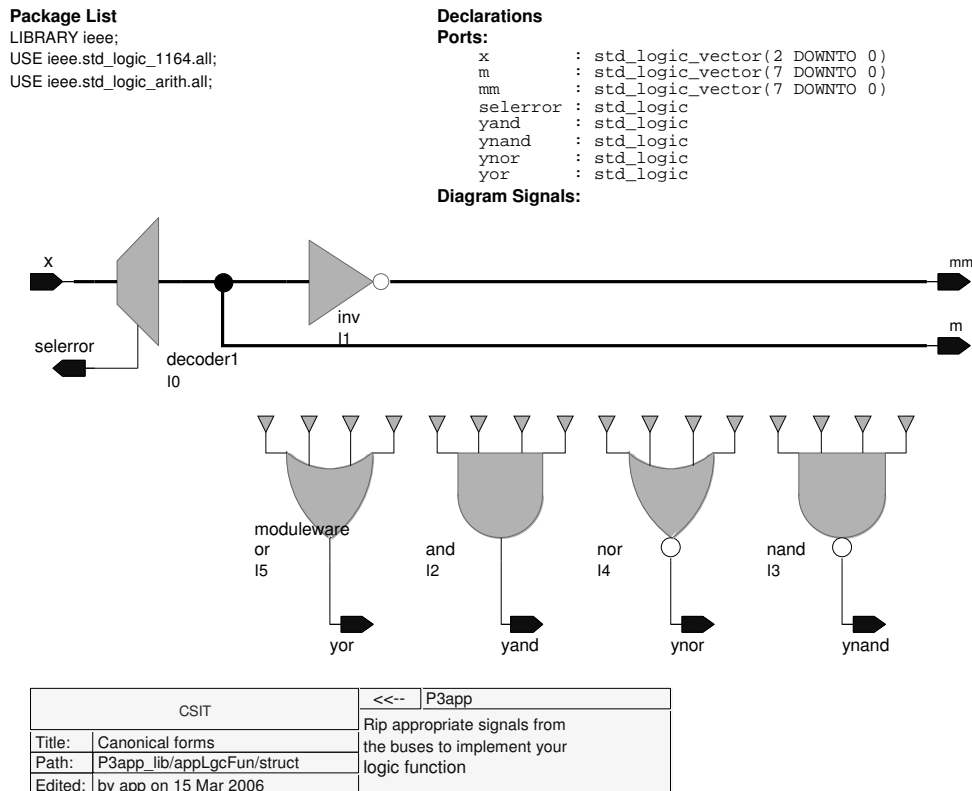

Figure 5: Four canonical implementations of a logic function (incomplete).
- You should aim at a block diagram as in Figure 5.
- When you have a block diagram similar to that in Figure 5 the final step is to **connect the gates** to the appropriate signals from two busses and implement your logic function in four equivalent canonical ways.